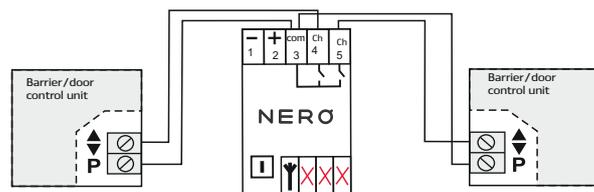

Figure 3 – Two-channel mode
**Two-channel mode (factory setting).** Command duration is 1.5 s. It is used to control two automation objects. However, it should be taken into account that the radio card has one common input (3 "com" terminal), and it is not possible to connect it to different potentials at the same time (see Figure 3)